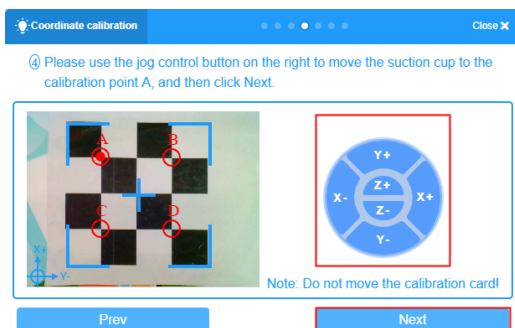

Figure 2.5 Coordinate calibration
Step 3: Coordinate calibration. Replace the end of the robot with a suction cup, open DobotBlock to connect the robot, click "coordinate calibration" function, place the calibration card under the camera, and move the robot arm to A, B, C, D according to the prompts to complete the calibration, as shown in Figure 2.5.